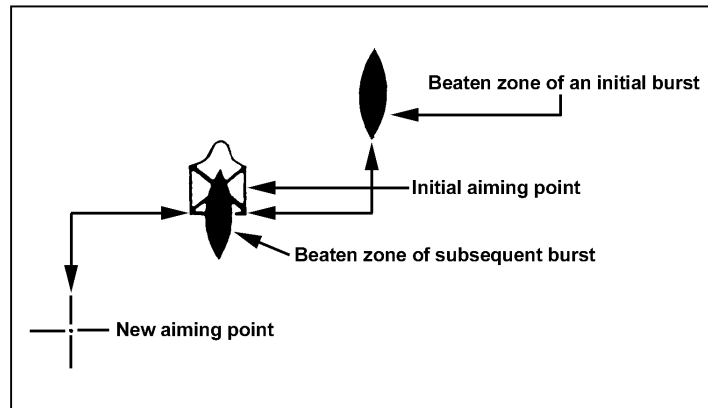

Figure 4-8. Adjusting aiming point method.
b. **Adjusted Aiming Point Method.** In this method of fire adjustment, the gunner uses his sight but does not make sight corrections. This method is quick. If the gunner misses the target with his initial burst, he must rapidly select a new aiming point the same distance from the target as the center of impact of the initial burst, but in the opposite direction. For example, if the initial burst is 20 meters beyond and 10 meters to the right of the target, the gunner rapidly selects an aiming point about 20 meters short and 10 meters to the left of the target, lays on that aiming point, and fires (Figure 4-8).
(1) When selecting a new aiming point from bipod mode, he may have to shift his shoulders slightly to the left or right for windage corrections. For elevation changes, he moves his elbows closer together (lowers the impact) or farther apart (raises the impact). For large corrections, he must move his elbows and realign his body to remain directly behind the weapon. He does this by redistributing weight to his elbows and toes and raises his body off the ground. He shifts his body using his toes, to the right or left, pivoting on his elbows until he is on line with the target. Then he assumes a steady position, obtains the sight picture, and engages the target.
(2) When selecting a new aiming point from tripod mode, the gunner may have to manipulate the T&E mechanism.